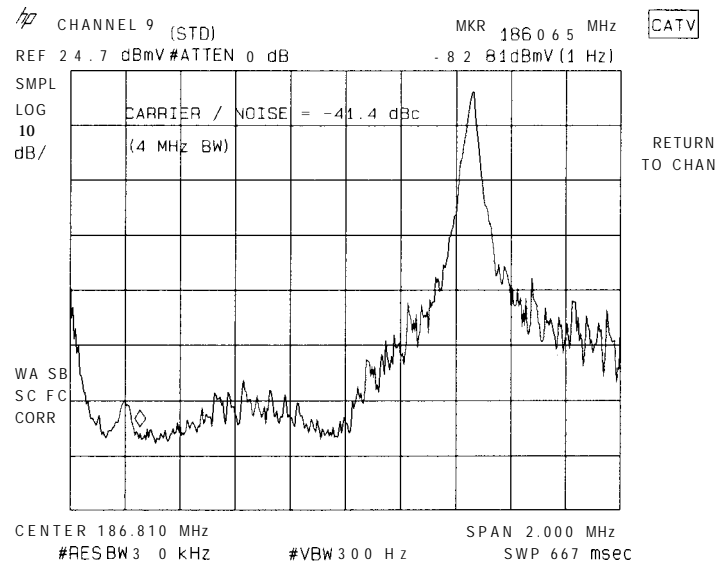

Figure 2-7.
3. Press CARNNOISE CONTINUE . The result appears as shown in Figure 2-7.